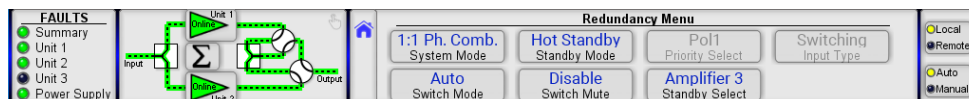

Figure 18: System Mode, 1:1 Ph. Comb. (Phase Combined)
Figure 18 shows the RF Signal Path Display for the two (2) amplifiers in a 1:1 Phase Combined System. The green dotted lines indicate the RF path through the input switches to Units 1 and 2 and then through the switching/combiner array to the system output. The online amplifiers are also green to indicate their online status.